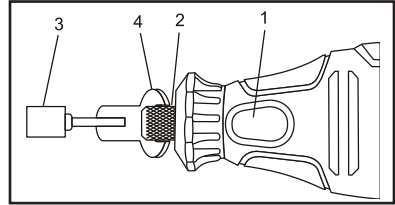

Fig. 4
2. Depress the spindle lock button (1) and slowly turn the collet nut (2) until the spindle lock button locks the spindle (Fig. 4).
4. Insert the accessory (3) into collet.